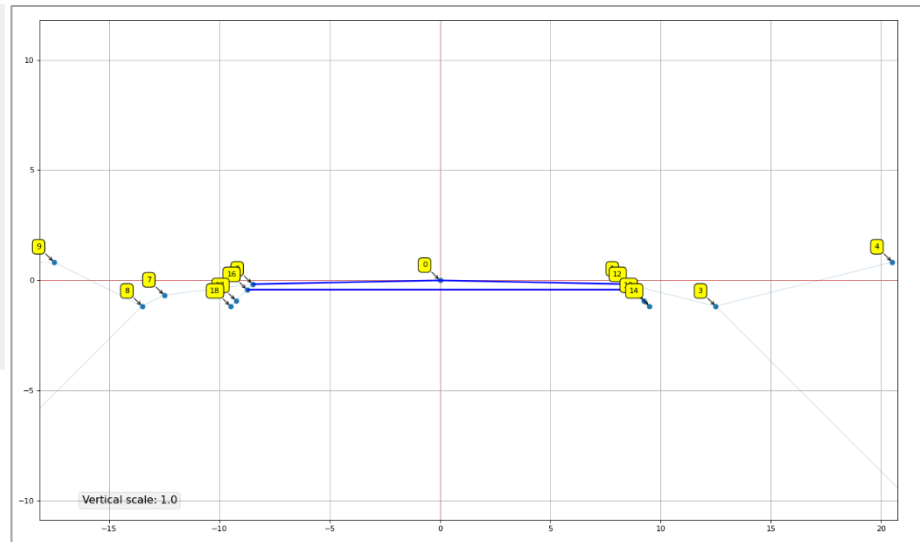

Figure 9: Layer definition
- In this case, the *Asphaltic concrete surface course* is composed of Nodes 0,1, 12 and 16 (Figure 9). Make sure the layer is a closed polygon.
To modify a layer retroactively, select the layer from the dropdown. You can then modify the name, colour and point ids. The point ids correspond to the node sequence that was drawn to define the layer. To modify the shape of the layer, add and remove nodes in the point ids sequence. (figure 9)